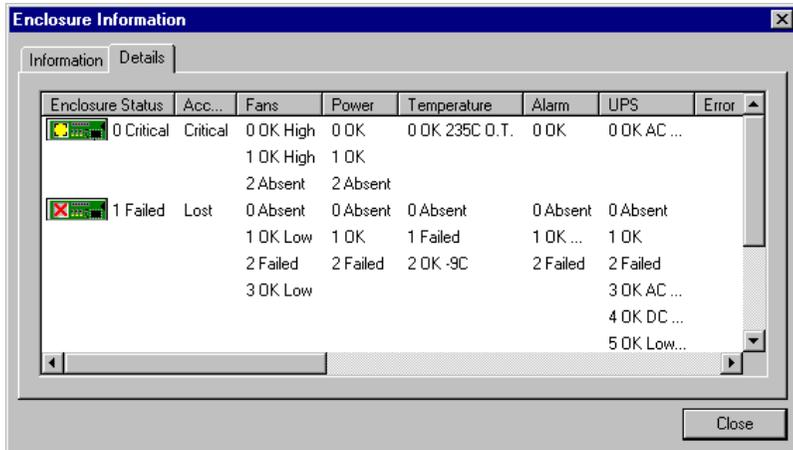

Figure 5-21. SES Enclosure Information: Details Page
Enclosure Information Details page (Figure 5-21) displays the following about the currently-available Fibre enclosures:
- An information field (may need to scroll, not visible in Figure 5-21 above), which contains most of the items listed on the Information page, for easier cross-reference